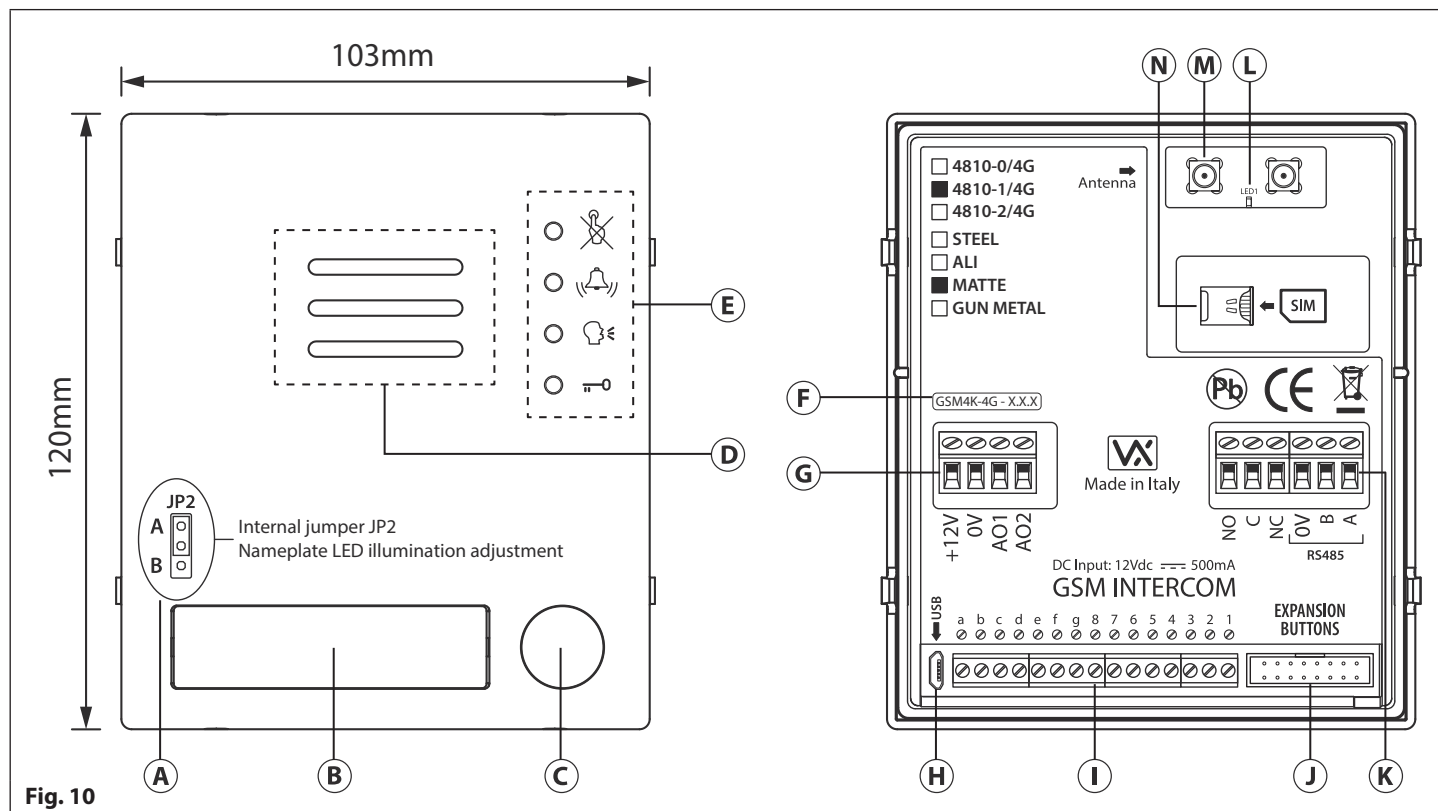

Fig. 10
The nameplate LED illumination jumper JP2 is located behind the GSM module's front fascia, as shown in Fig.10, (A). To access the jumper the fascia must be removed and the jumper can be adjusted as required. When JP2 is set in position A (upper 2 pins) the LED is set for bright illumination, when JP2 is set in position B (lower 2 pins) the LED is set for low illumination and if JP2 is completely removed this will disable the nameplate LED's.